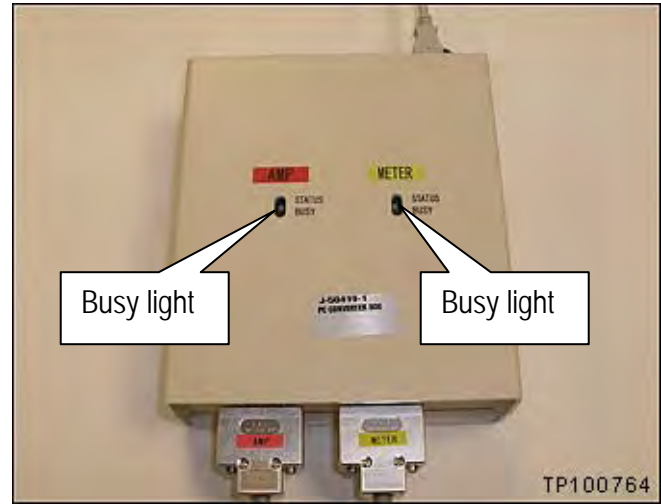

Figure 1h
16. Look at the "busy" lights on the converter box (see Figure 1h).